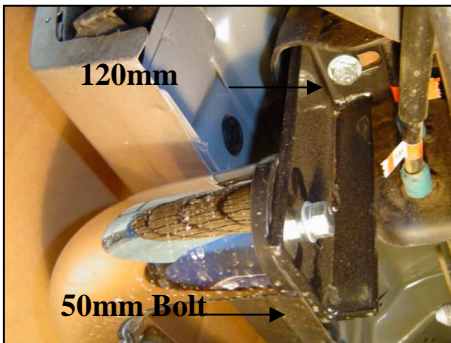

Figure 1
**Step 1:** Locate left side brackets, 12mm x 120mm Hex Bolts, 12mm Lock washers and 12mm Flat washers. Remove front, center, and rear cab mount bolts located under the cab. Loosely attach brackets to the bottom of the cab mounts with the hardware listed in this step (Figure 1, 2 & 3).